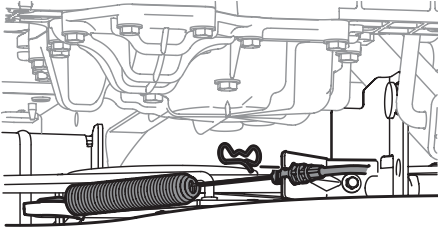

Fig. 43
- Remove the bow tie clip that secures the PTO cable to the bracket on the deck, slide the PTO cable out of the bracket and unhook the spring from the idler bracket (Fig. 43).